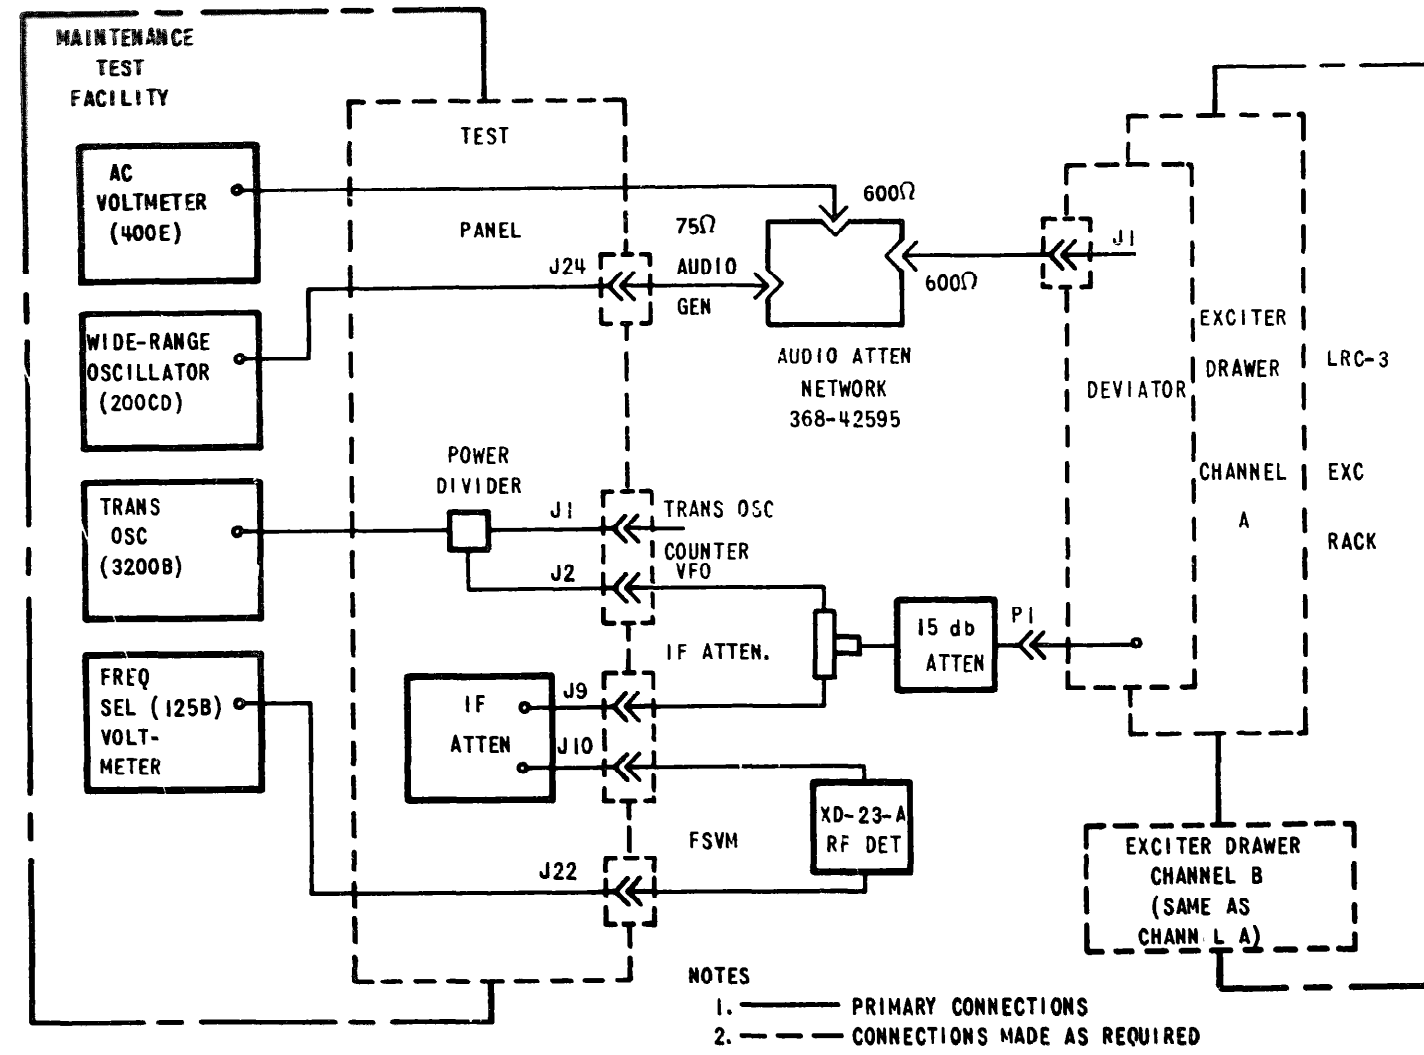

Figure 3-6. LRC-3 Deviation Sensitivity Check, Cable Connections
- a. Connect test cables between the Maintenance Test Facility and Channel A of the LRC-3 exciter rack as shown in figure 3-6